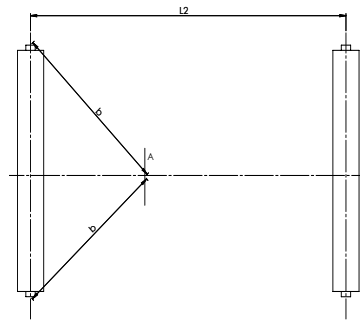

Figure 126
- If the shafts are too far apart or obstacles are in the way, you can measure the distance "b" between ends and a point "A" on the centre line of the conveyor (fig. 126).